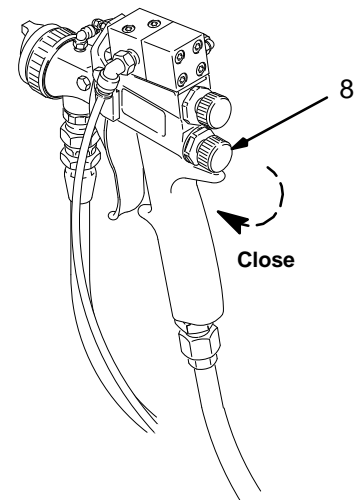

Fig. 16
- D. To further reduce the volume of adhesive output at the gun, turn the fluid adjustment knob (8) clockwise as needed. See Fig. 16. However, for the best results, adjust the adhesive pressure or use a different size needle/nozzle/air cap combination to change the fluid flow. Refer to page 4.